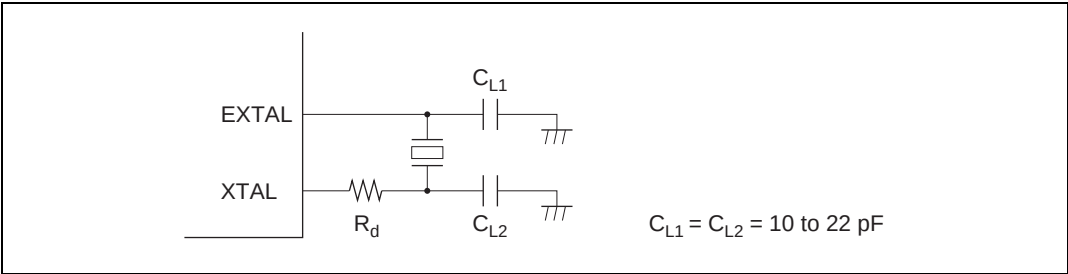

Figure 18.2 Connection of Crystal Resonator (Example)
**Circuit Configuration:** A crystal resonator can be connected as shown in the example in figure 18.2. Select the damping resistance  $R_d$  according to table 18.2. An AT-cut parallel-resonance crystal should be used.